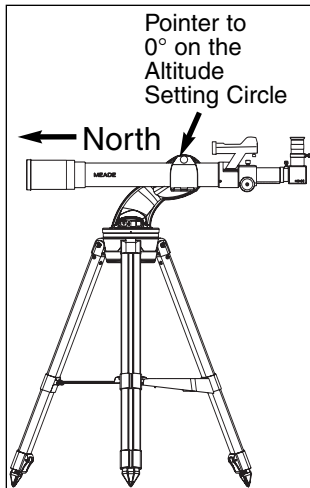

Fig. 16: Alt/Az Home Position.
1. Loosen the telescope's Altitude lock (see **Fig. 16 and 17**).
IMPORTANT NOTE: The accuracy of One-Star Alt/Az Alignment, unlike the Two-Star Alignment procedures, depends on how well the observer levels the telescope and how close to North the telescope is pointed when setting the Home Position (**Fig. 16**). Because the Two-Star Alignment methods use two stars to align upon, they are more precise than One-Star Alignment.